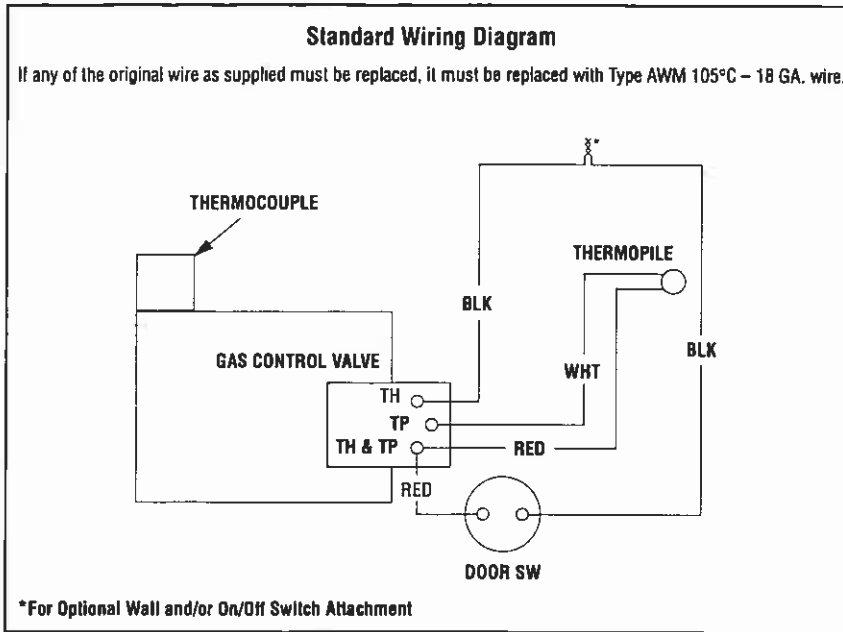

Figure 12
**Step 6. Wiring –** The wiring diagram is detailed in Figure 12. Refer to Figure 13 to field wire optional wall switch. All electrical wiring must be in accordance with local codes or, in the absence of local codes the latest edition of the National Electrical Code, ANSI/NFPA 70. The heater must be electrically grounded.
**Step 7. Installing the Optional Remote Wall Switch** – The standard millivolt system comes from the factory wired as shown in *Figure 12*. Select a convenient location for the remote wall switch and connect the wiring to the appliance (*Figure 13*).